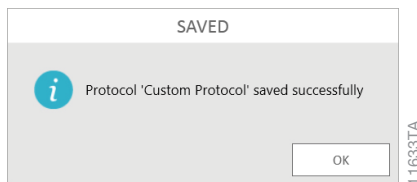

Figure 21. GloMax® Explorer New Protocol Successfully Saved user message.
7. Save the protocol by selecting either the **Save** or **Save As** button on the bottom right corner of the screen. If requested, enter any protocol name and description information and press the **OK** button. A user message will appear indicating that the protocol was saved successfully (Figure 21).